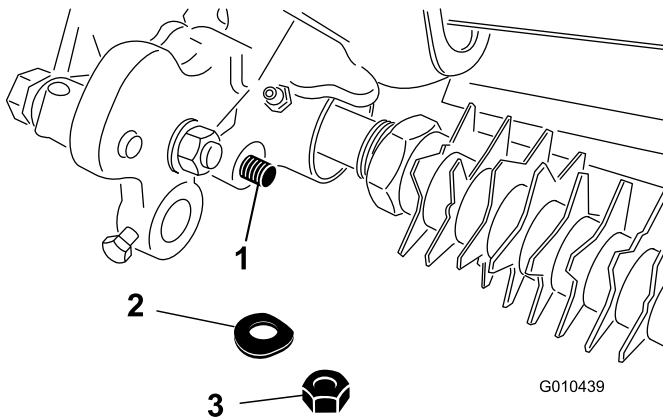

Figure 29
4. Remove the locknut and spring washer securing the height-of-cut arm assembly rod end to the groomer drive assembly (Figure 29).